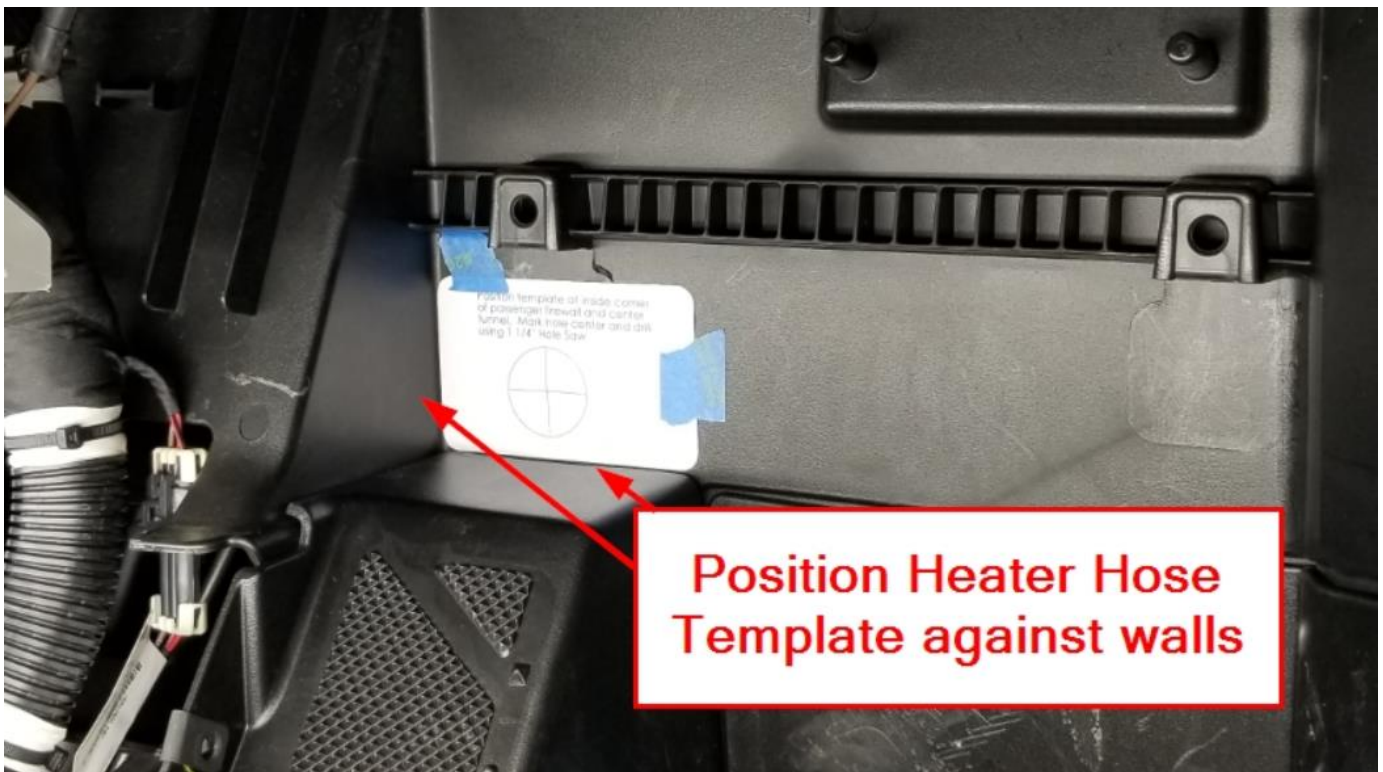

Figure 6
- f. Position the Heater Hose Template along the Passenger side firewall as shown in Figure 6. Transfer the hole center and drill using the 1 ¼" Hole Saw and Pilot Bit. Insert one of the 1 ¼" Rubber Grommets into the Firewall hole.
- b. Position the Heater Hose Template along the Firewall as shown in Figure 6. Transfer the hole center and drill using the 1 ¼" Hole Saw and Pilot Bit. Insert one of the 1 ¼" Rubber Grommets into the Firewall hole.